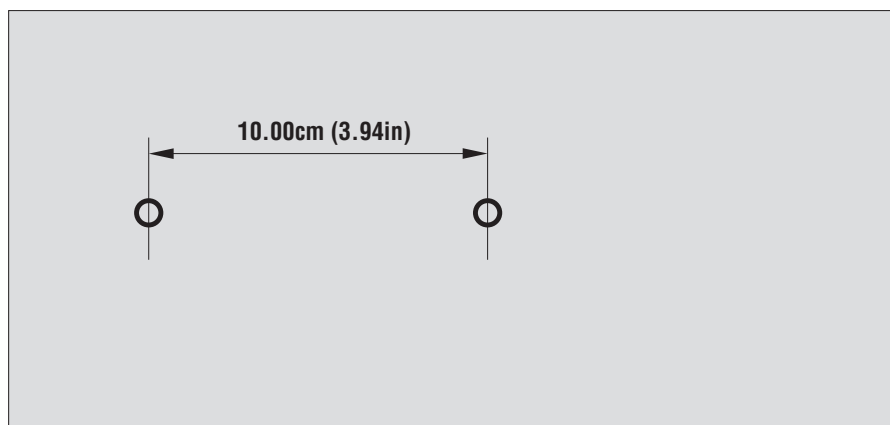

Figure 4. Wall Mounting Hole Dimensions
4. Mark locations for two holes 10.00 cm (3.94 in) apart on the wall as shown in Figure 4..